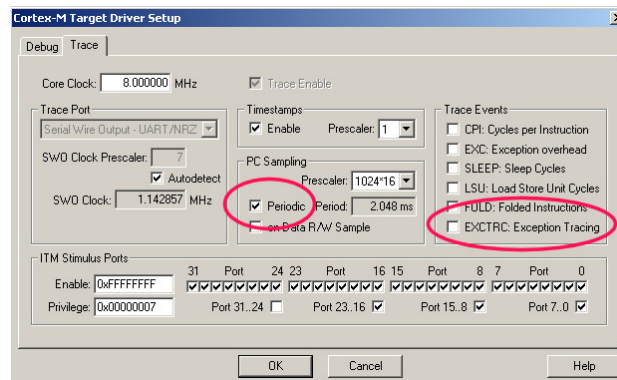

Figure 7 Trace Configuration to Sample the PC
- 3) Configure it as shown below in Figure 7. Make sure the Periodic in the PC Sampling area is checked. This turns on the PC Sampling feature. Ignore the ITM fields. Uncheck EXTRC.